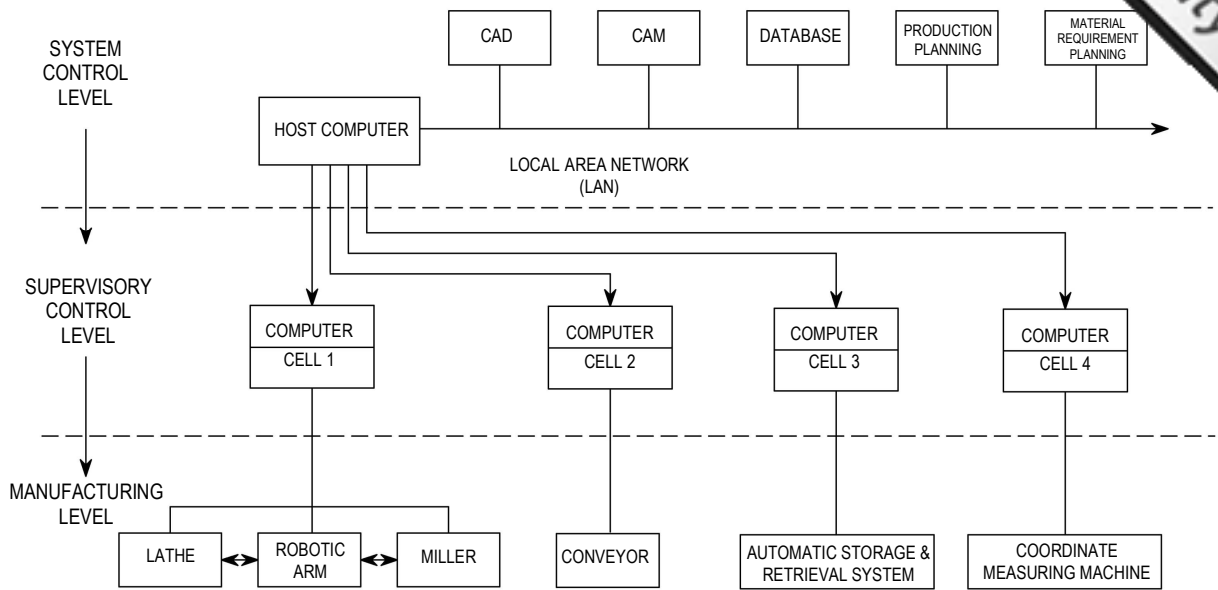

Figure 3
3. Figure 3 shows a typical layout of a Computer Integrated Manufacture (CIM) system.
- (b) Referring to Figure 3, explain briefly how information and computer technology can enhance each of the following: